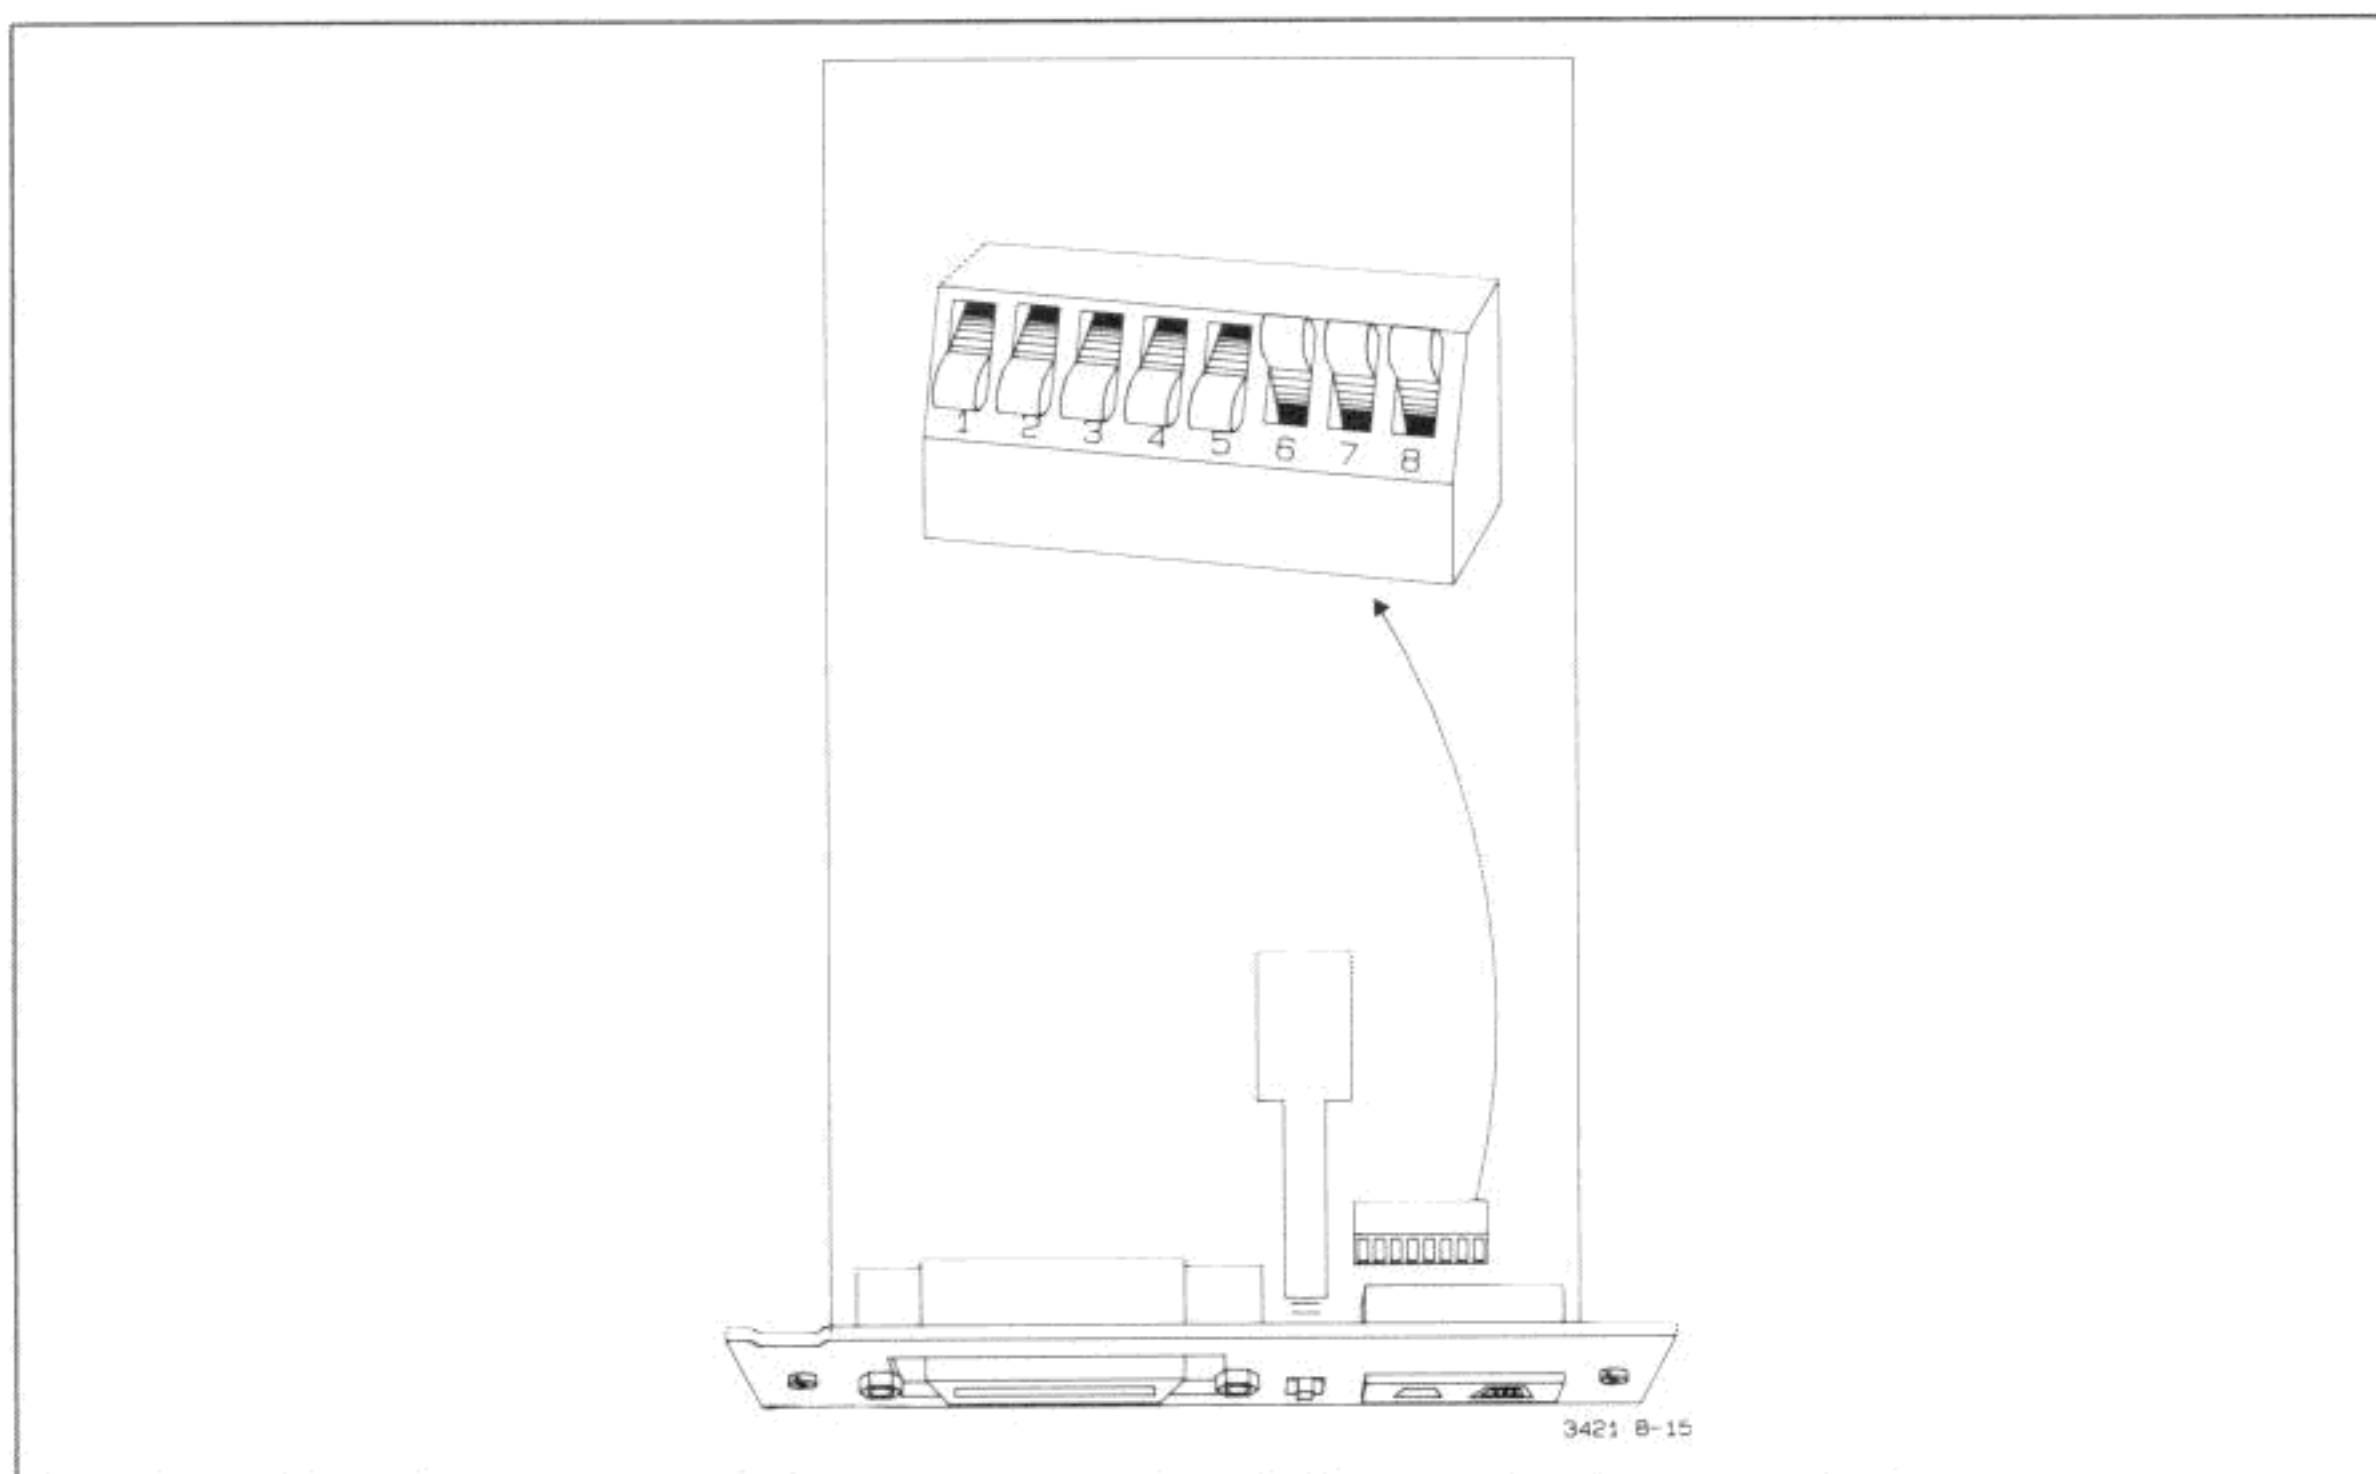

Figure 4-8-15. S802 Switch Settings for Signatures in Table 4-8-8
g. Set the S802 switch segments as shown in Figure 4-8-15 and check for the signatures listed in Table 4-8-8. If any signature is incorrect, refer to paragraph 4-8-71 to isolate the defective area. If all signatures are correct, assume that the HP-IB board is operating correctly. If, however, the board still appears to be operating improperly, there is slight a possibility that a failure exists with the internal CPU RAM that was not detected by SA Test #1.
Table 4-8-8. Signatures for Figure 4-8-15 Switch Settings (SA test #1)